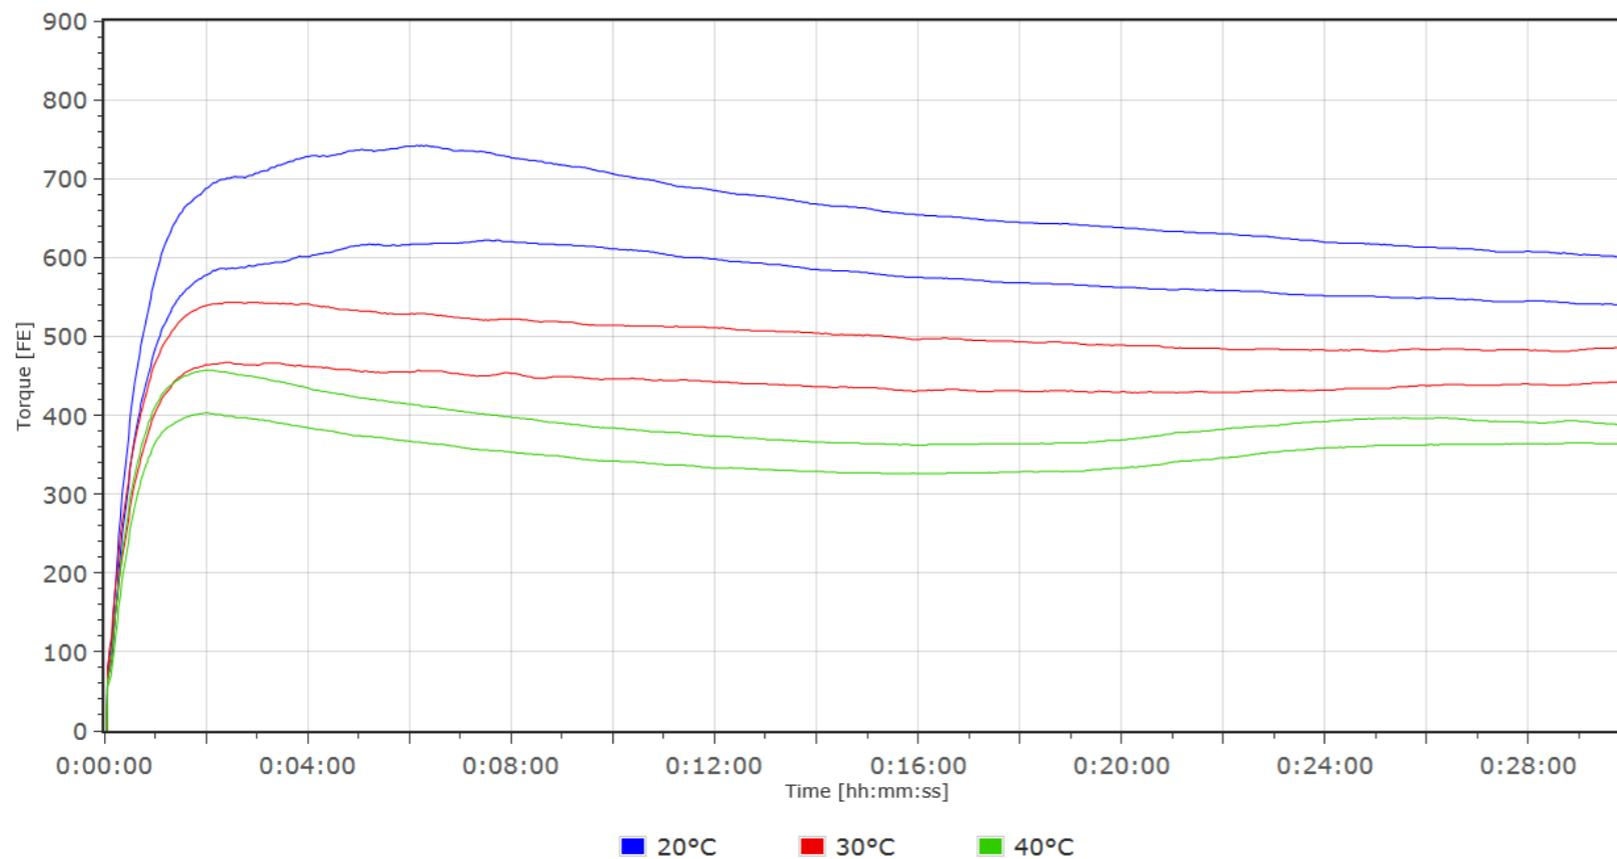

**Fig. 2.** Farinograms made: with a 50-g mixer (A) and a 300-g mixer (B); in a greatly used bowl (C); and in a bowl with a physical defect (D).
*The size and the Physical conditions of the bowl have a big influence on the Farinogram of the flour sample, that is the resistance of dough for mixing contributes of main two factors; one is from the mixing blades and the second is the adhesive to the bowl walls. (Fig 2 ) shows the Farinogram for the same flour differs from the two bowls and from a new bowl to a defected one.*